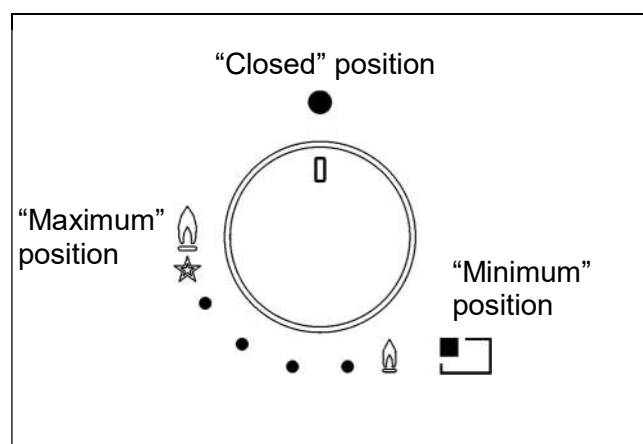

FIG. 1
Press and turn left the control knob corresponding to the burner that will be used. Set it into "maximum" position (strong flame, Fig. 1) and then press the knob fully.
If a burner is equipped with control thermocouple, it is necessary to turn left the control knob corresponding to the burner that will be used and keep turning it into "maximum" position (strong flame, Fig. 1) until you meet some resistance. Then press the knob and repeat the operation described above.
- After start of boiling, turn the control knob into "minimum" position (weak flame, Fig. 1).